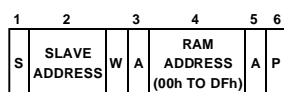

Figure 9a. Setting A RAM Address For Subsequent Read
1. To write a register address to RAM for a subsequent single byte read from the same address or block read or write starting at that address. This is illustrated in Figure 9a.